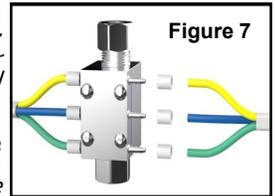

Figure 7
**STEP #1** - Hook up the control tubes from the floor activator to the valve block with the plastic sleeves provided as per the color-coded arrangement in **Figure 7**. (*Note: To facilitate the installation of the tubing and sleeves, dip the ends of the tubing into hot soapy water and, using a pair of needle nose pliers, push the tubing on to the barb fittings. An adjustable wrench opened to the diameter of the tubing will assist in pushing on the sleeves. Take care not to damage the barb fittings or crush the tubes*). If a tube must be removed from a barb fitting, split the tube along its length with a sharp knife (*Do not pull as this may damage the barb*).